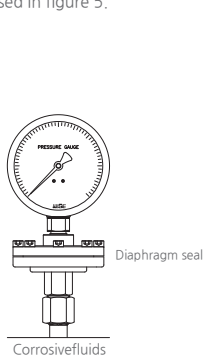

Figure 1
- 1) If the fluid contains any corrosive agents, it will directly deliver to the bourdon tube, and it could damage the tube. Therefore, it is recommended that the user chose 'Diaphragm Seal Type' pressure gauges. (Figure 1)